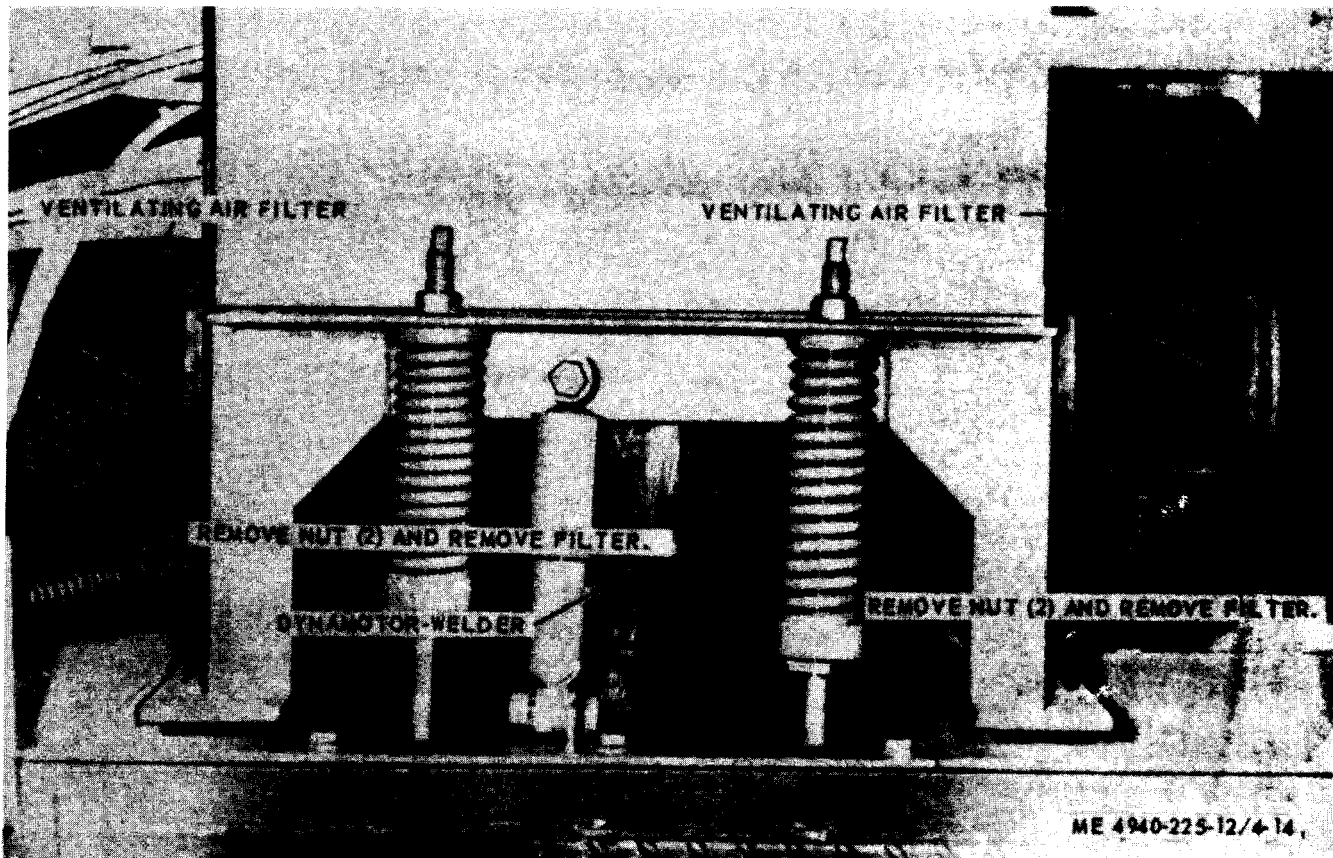

Figure 4-14. Ventilating air filters, removal and installation.
a. *Removal* Remove the ventilating air filters as illustrated in figure 4-14.
(1) Clean the air filters with cleaning solvent and blow dry with low-pressure compressed air.
(2) Inspect filters for breaks, holes, cracks, and other defects and replace a defective filter.
(3) Inspect filter gasket for defects and replace if defective.
c. *Installation.* Install the ventilating air filters as illustrated in figure 4-14.